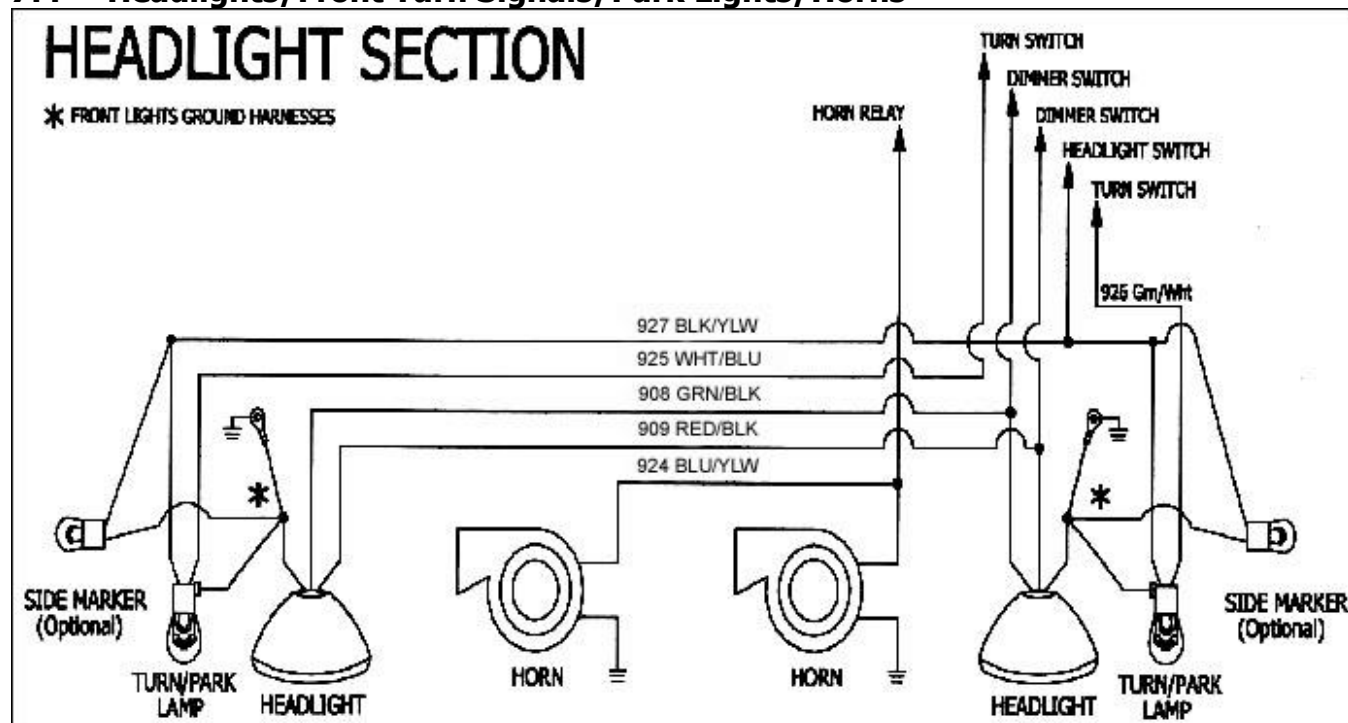

Figure 7-8 Front Lights and Horns
- 7.4.2** *The Front Lights Ground Harness has one 14 gauge wire and two 18 gauge wires. One end of the 14 gauge wire is pre-terminated and will need to be connected to a body bolt. **See Figure 7-9.** The other end of the 14 gauge wire is for the headlights ground. The two 18 gauge wires are to be connected to the Turn/Park Lamps ground and to the Side Marker Lamps ground. **See Figure 7-8.**